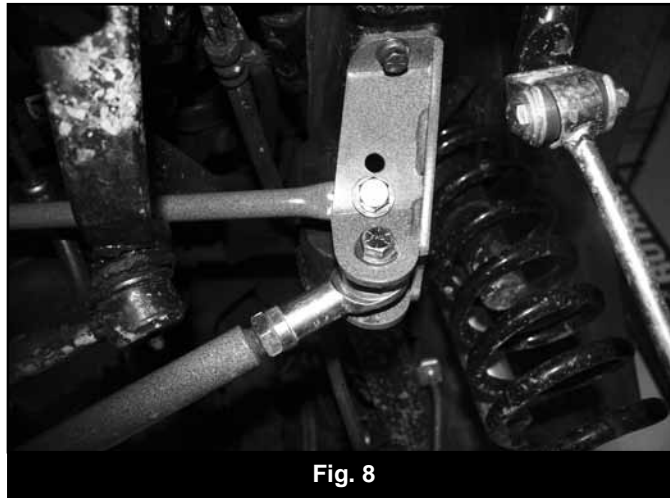

Fig. 8
17. Attach the straight end of the new support tube to the inside of the track bar bracket just installed on the frame. Align the hole in the support with the upper hole in the bracket (above the track bar hole and loosely fasten with a 1/2" x 1-1/2" bolt, nut and washers (BP 766). Before fastening the support tube, make sure the opposite end set relatively flush to the bottom of the passenger's side frame rail. If it doesn't flip the tube over (Fig 8).